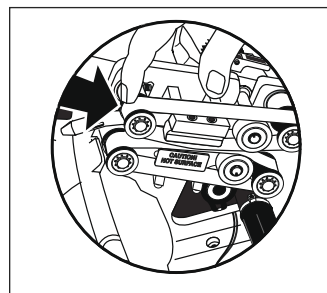

Figure 19
4. Push spring-loaded rollers toward front of machine to loosen either seal belt. (See Figure 19)